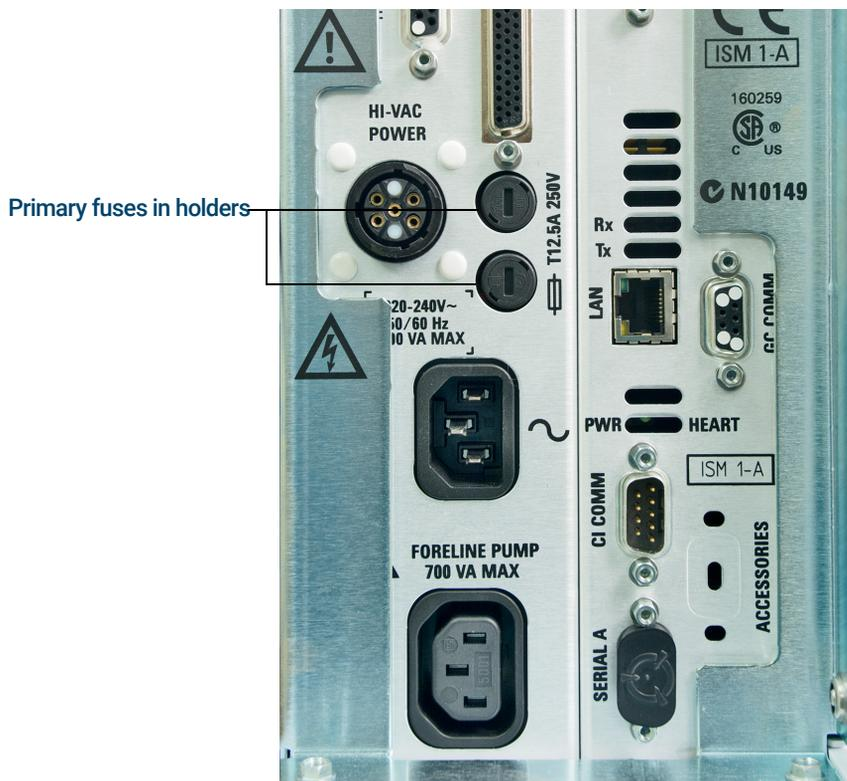

Figure 2. Primary fuses
- 2 Turn one of the fuse holders counterclockwise until it pops out. The fuse holders are spring loaded. (See Figure 2 on page 28.)